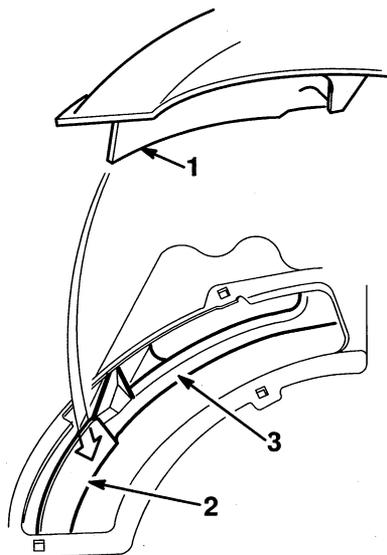

Figure 39
- Place front corner of chute baffle into deck opening. Rotate chute counterclockwise and push down into deck opening (Fig. 39).